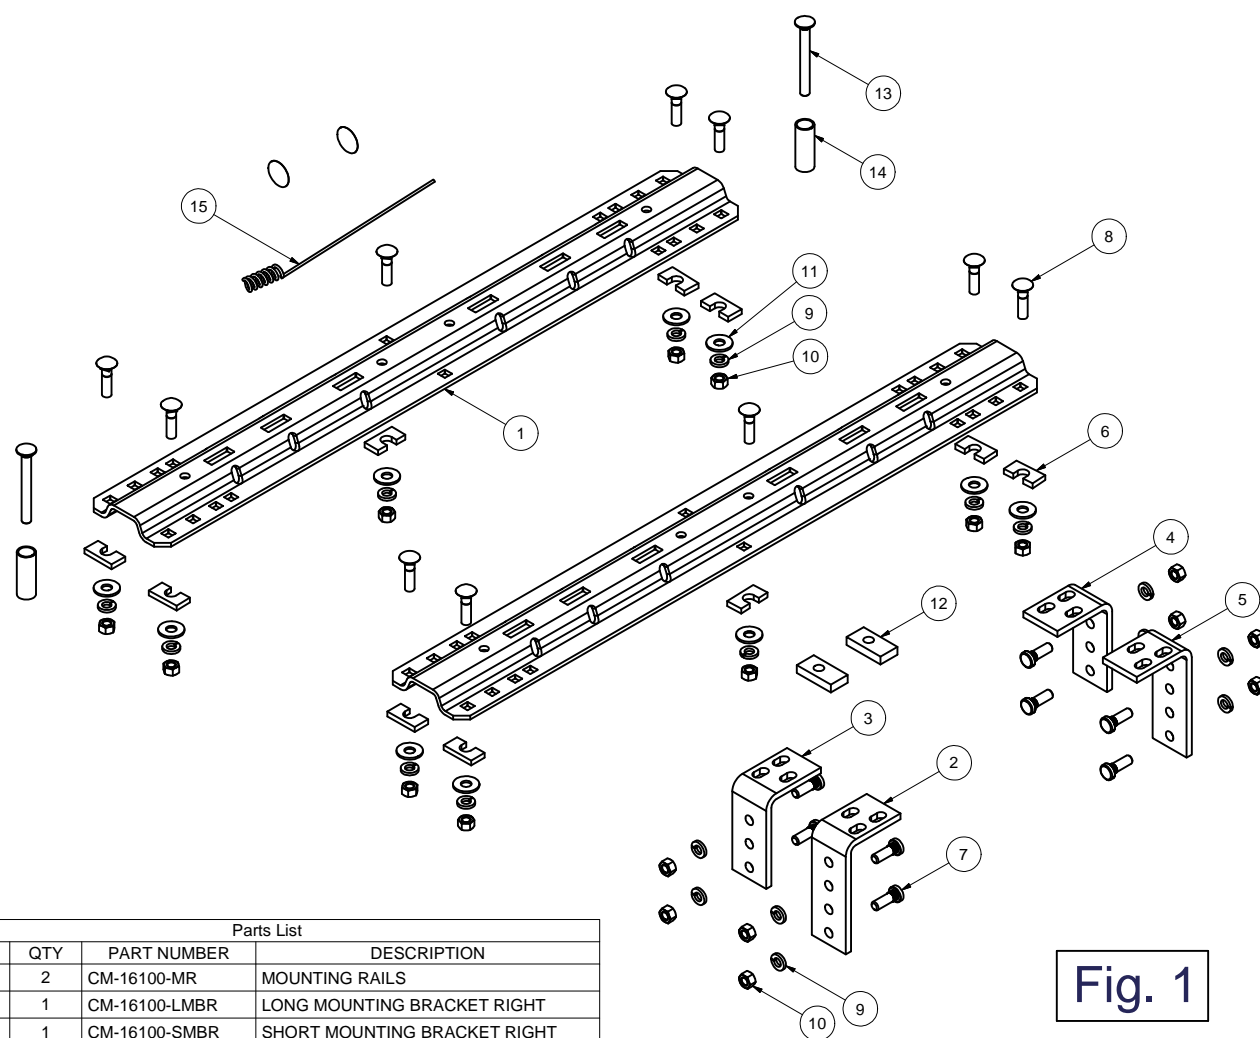

Fig. 1
1. The following instructions should be used to mount the 5th wheel. Care and attention to detail will ensure a quality installation. Check parts against parts list to become familiar with parts in kit. (See Fig. 1)